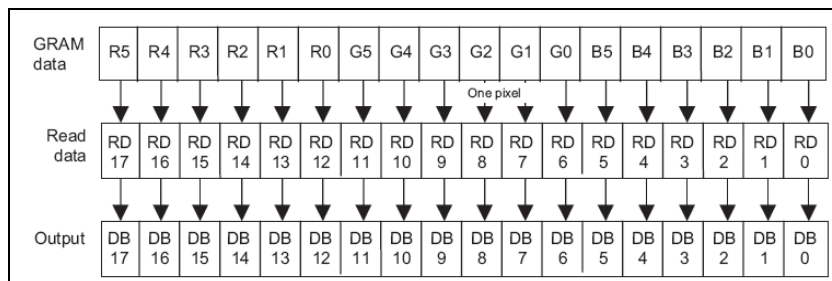
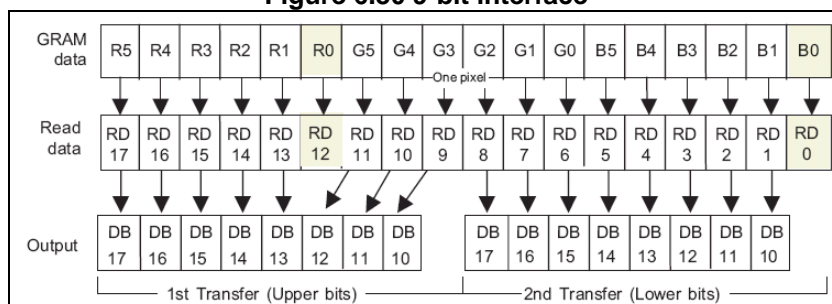

Figure 6.28 18-bit interface
Figure 6.31 8-bit interface / SPI(65K color)
**Note 2:** This register is not available with the RGB interface. **Figure 6.28 ~ Figure 6.31** illustrates the pin assignment among data bus (DB17-0), R22 (RD17-0) and GRAM in read data instruction.